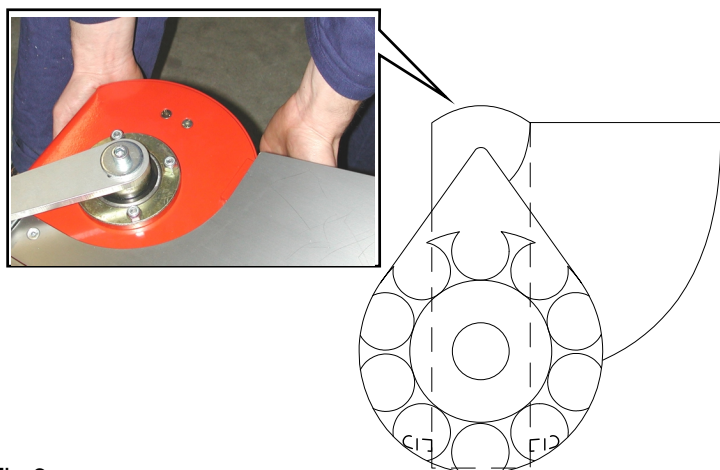

Fig.6
*When taking the machine in the suitable fixing area drive the truck or the transpallet as close as possible then, if you do not succeed in placing it correctly, ask two people to collect the machine holding it in the points as shown in the picture. (Fig. 6).*